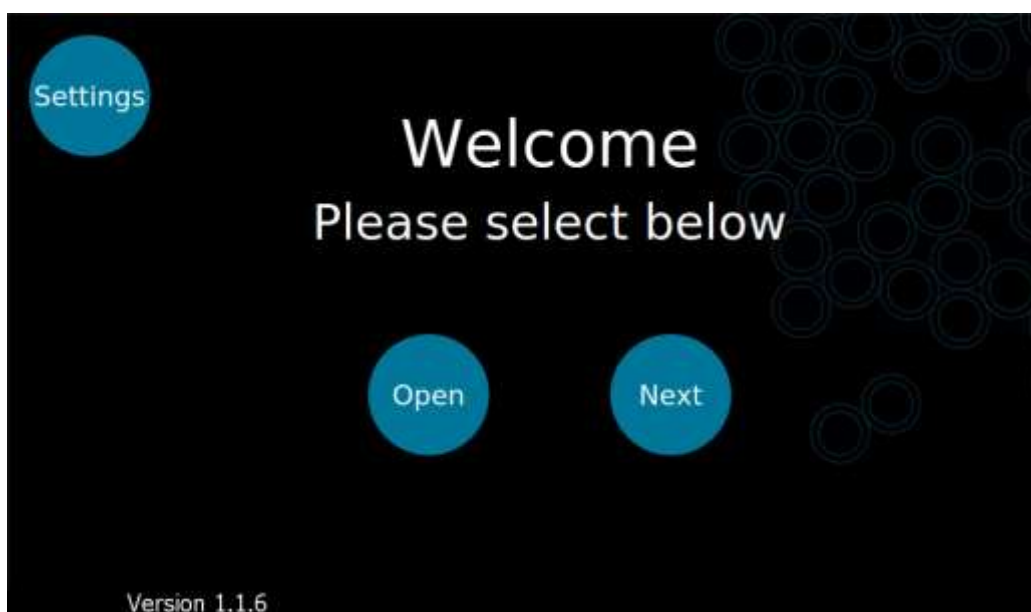

Fig. 3.4. The Xdrop instrument “Welcome” screen. Press “open” to eject the drawer.
12. Push “Open” on the instrument touchscreen to eject the drawer (Fig. 3.4).